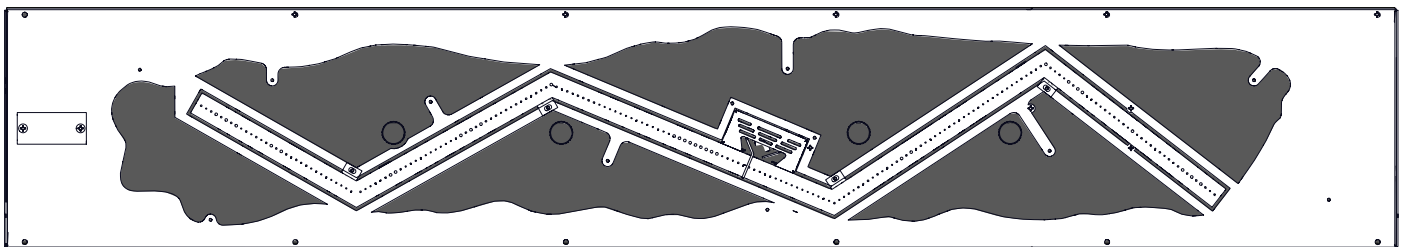

Fig. 2
3. Install a layer of glass around the logs and over the mesh area to allow lights to shine through. Glass should be washed and dried before install. Do not cover burner (**Fig. 2**).